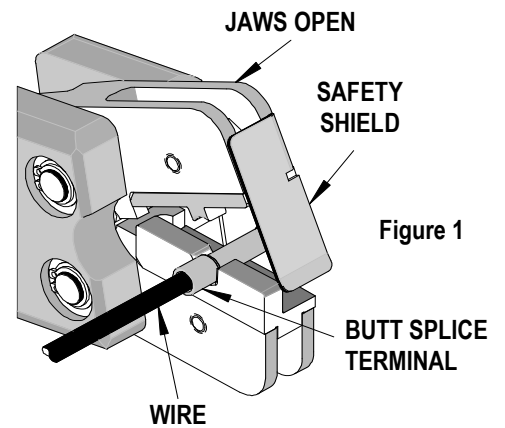
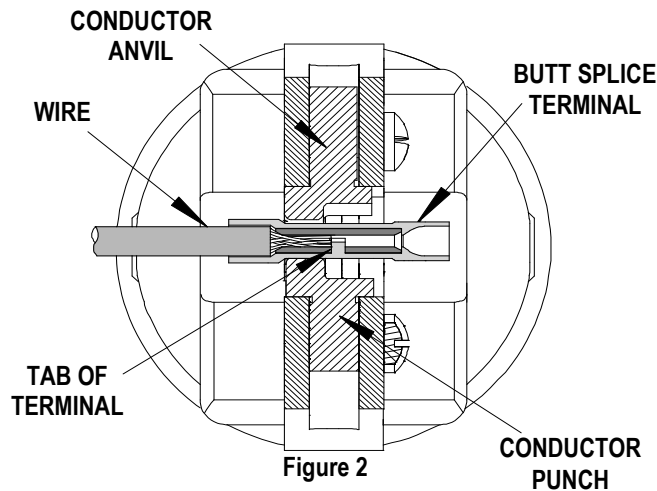

Figure 1
Figure 2
1. Insert the wire into the butt splice; the wires end should butt up against the tab in the terminal. See figure 2. Hold the air crimp tool with the backside facing the operator. Insert the butt splice and the wire into the nest. See Figure 1.